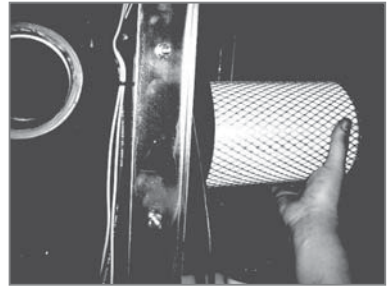
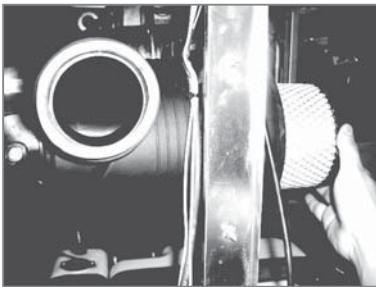

Figure 2 Removal of the used element/cleaning inside
Figure 3 Element replacement
- Replace the used filter element with a new one. (Figure2, Figure3)